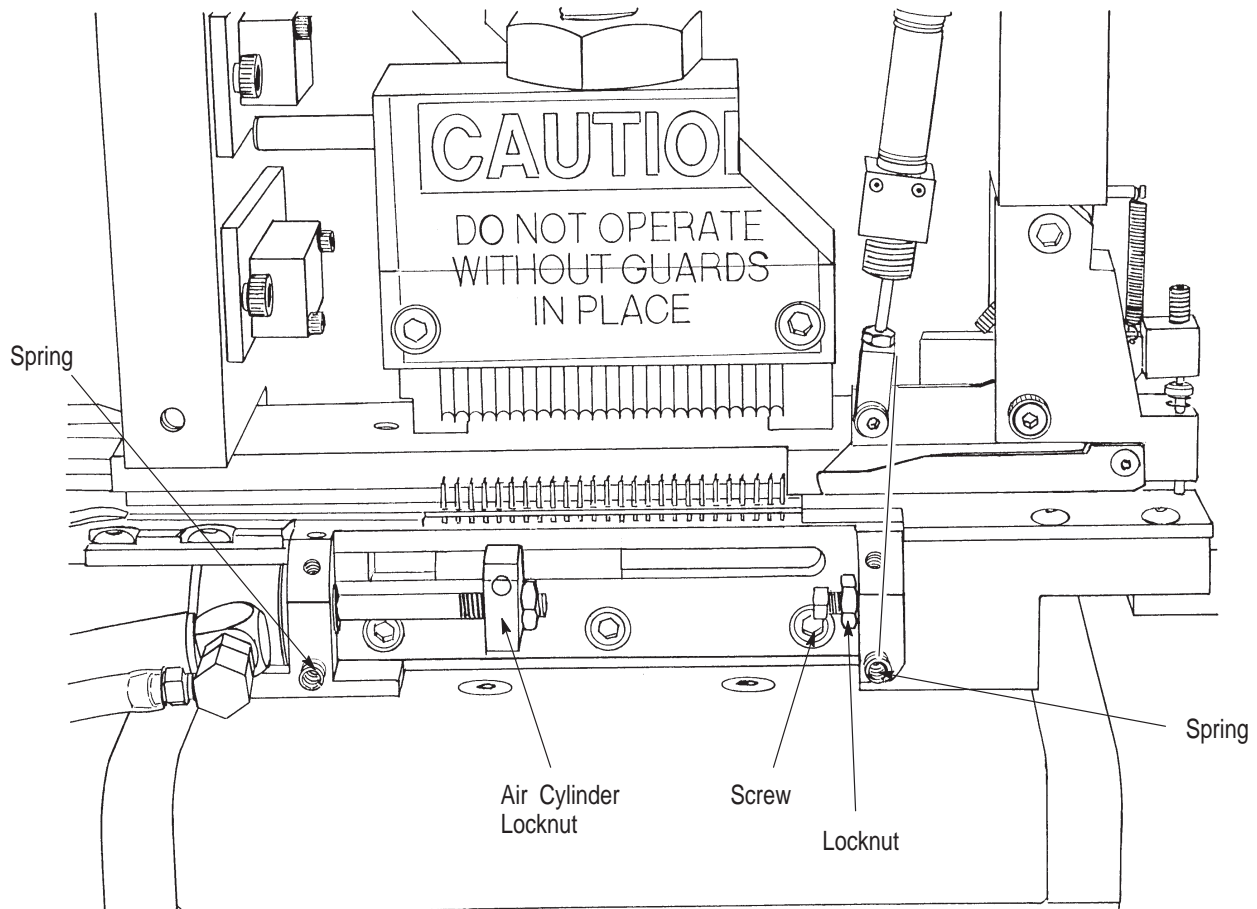

Figure 18
7.3. Feed Finger Adjustment (Figure 18)